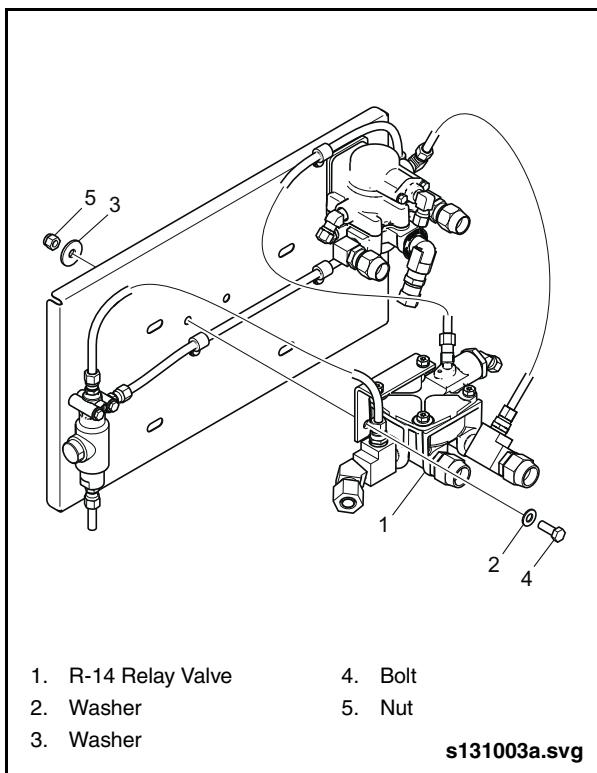

Fig. 8-16: R-14 Relay Valve Installation
5. Remove mounting bolts and then valve. See "Fig. 8-16: R-14 Relay Valve Installation" on page 66.